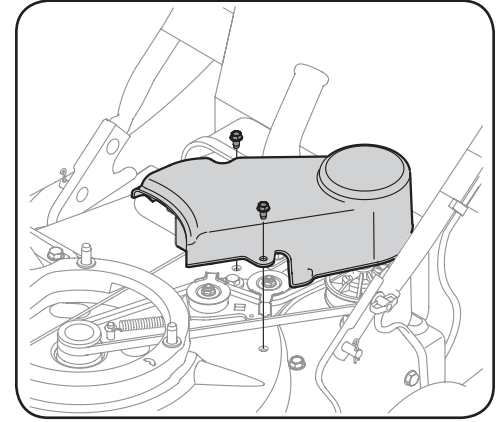

Figure 7-2
4. Remove the three self tapping screws securing the belt cover, and remove belt cover. See Figure 7-2.